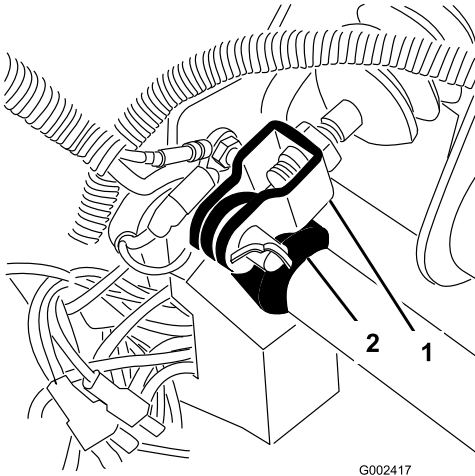

Figure 68
1. Remove the cotter pin and clevis pin securing the master cylinder yoke to the brake pedal pivot (Figure 68).
3. Loosen the jam nuts securing the yoke to the master cylinder shaft (Figure 68).